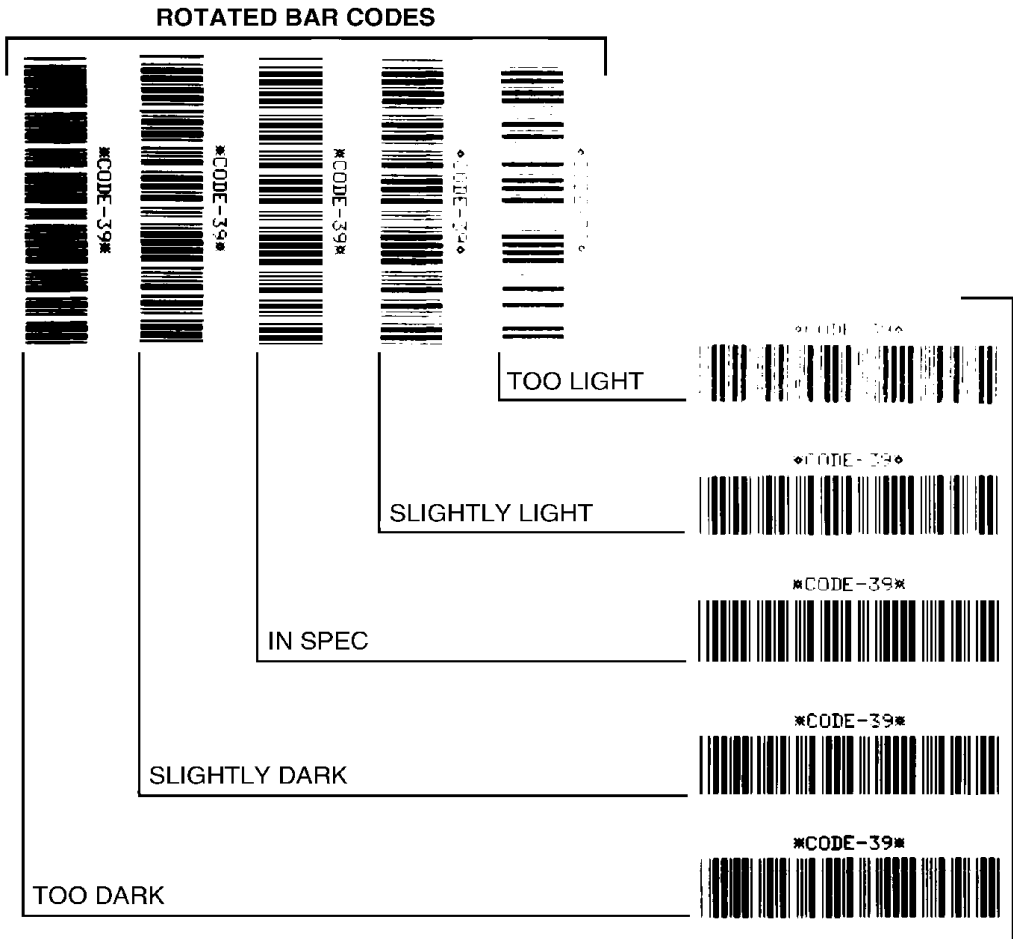

Figure C.1 Bar Code Examples
4. Compare the test label printed, to the bar codes in Figure C.1. If the test label appears too dark or too light, increase or decrease the Darkness setting accordingly.